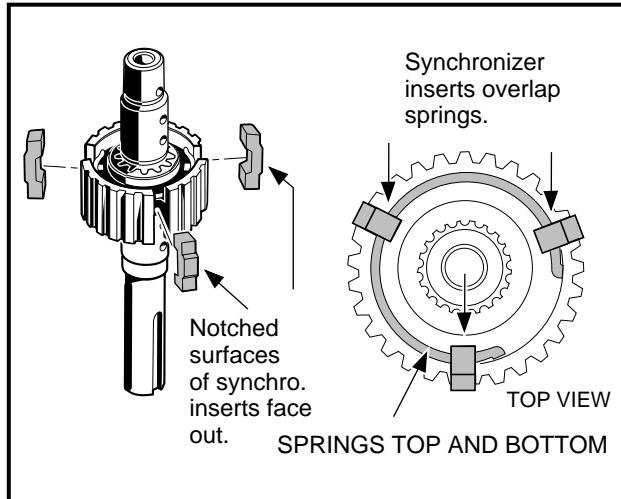

Figure 16-58 Synchronizer Inserts
3. Install the three synchronizer inserts (48) into the slots in the sleeve (**Figure 16-42, Page 16-18**). Make sure the notched surfaces of the inserts are facing outward as shown (**Figure 16-58, Page 16-25**).